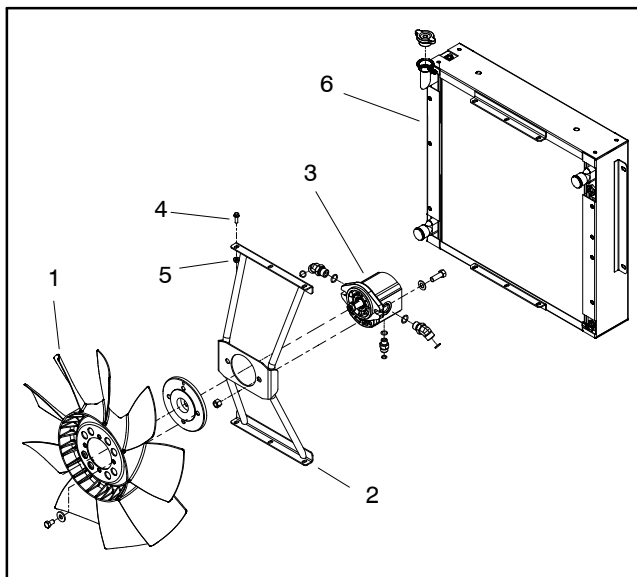

Figure 11
11. Remove fan motor and fan assembly (Fig. 11).
C. Remove six (6) cap screws and flange nuts that secure fan motor bracket to radiator.